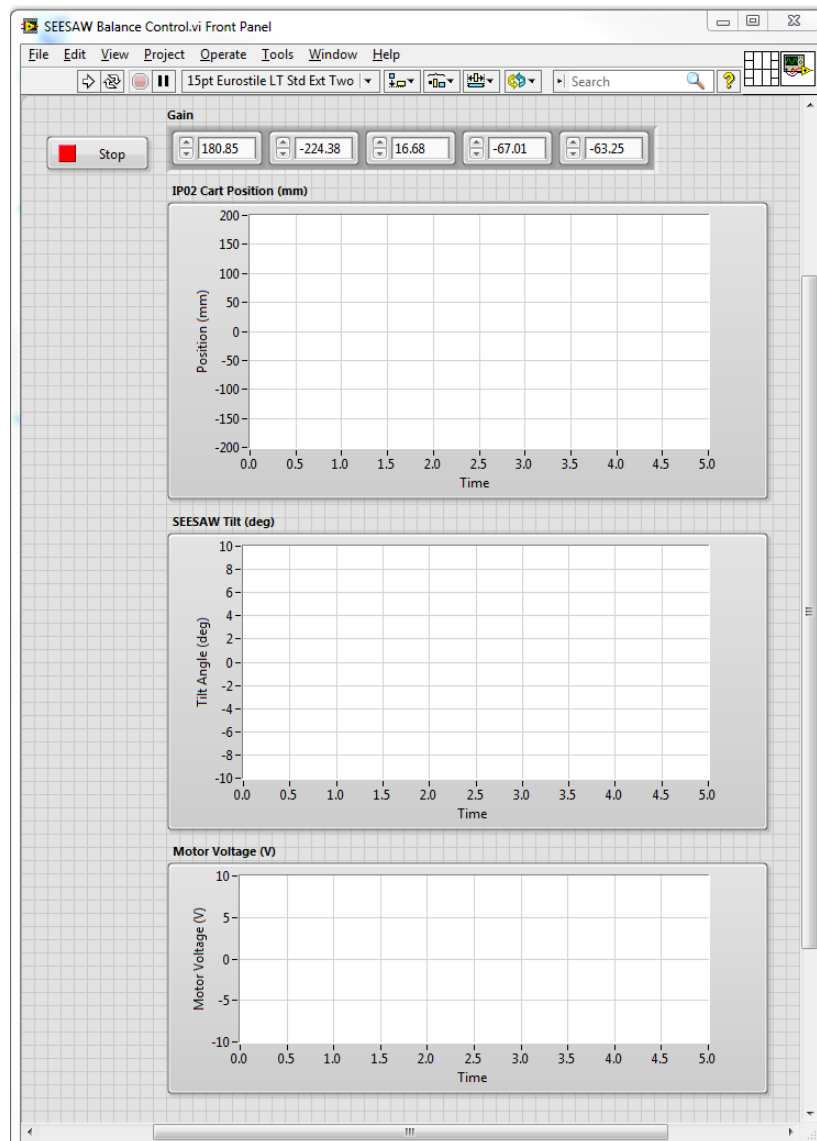

Figure 3.3: VI used to run controller on the SEESAW.
The *SEESAW Balance Control VI* shown in Figure 3.3 is used to perform the balance control on the SEESAW. The VI contains **Quanser Rapid Control Prototyping Toolkit®** blocks that interface with the dc motor and sensors of the SEESAW system.
3. Open the *SEESAW Balance Control.vi*, shown in Figure 3.3.